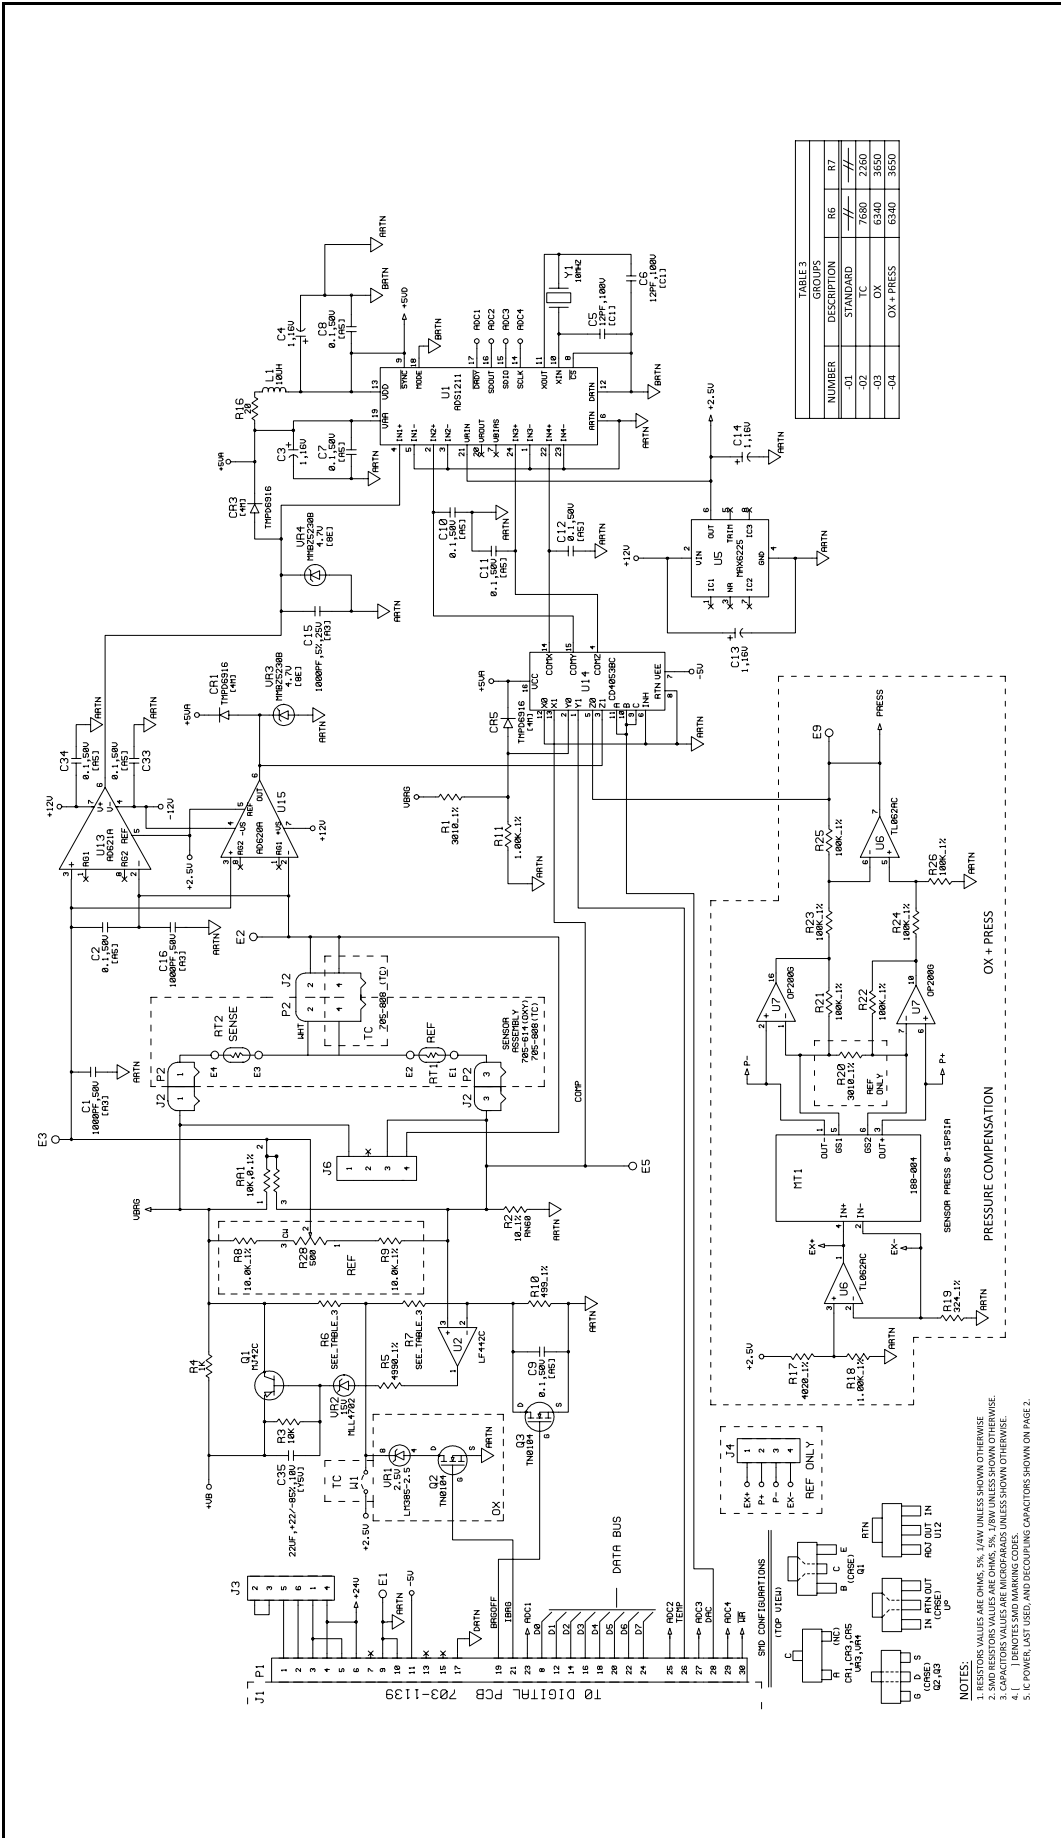

Figure 63: Analog PCB schematic (ref. 700-1276, Rev. F, SHI)
- *Figure 63: Analog PCB schematic (ref. 700-1276, Rev. F, SH1) on page 47*